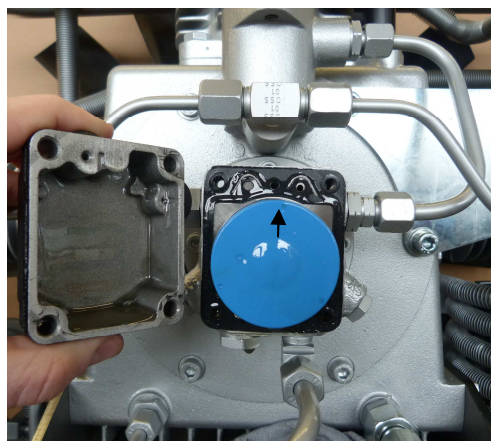

Fig. 2
- Be sure to position the arrow from the new oil sieve opposite to inlet and return ports of the pump (see Fig.2).